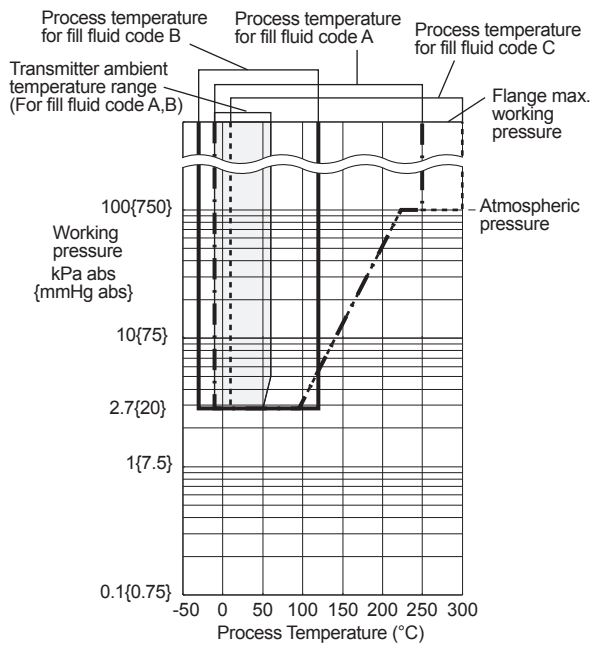

Figure 9.1 Working Pressure and Process Temperature
For atmospheric pressure or below, see Figure 9.1.
- *1: See Figure 9.1 'Working Pressure and Process Temperature.'
- *4: The differential pressure transmitter should be installed at least 600 mm below the high pressure(HP) process connection. However, this value(600 mm) may be affected by ambient temperature, operating pressure, fill fluid or material of the wetted diaphragm. Contact YOKOGAWA when the transmitter can not be installed at least 600 mm below the HP process connection.